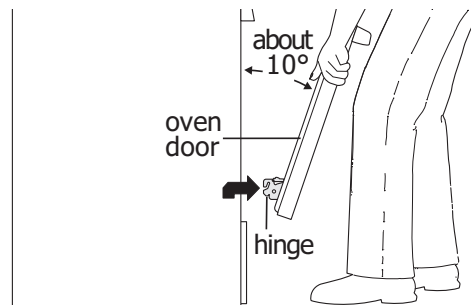
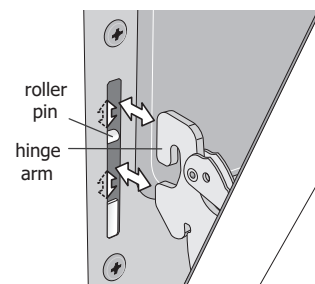

Figure 50: Holding door for removal
Figure 51: Replacement and location of hinge arm and roller pin
3. Firmly grasp both sides of oven door along the door sides. Do not use the oven door handle (See Figure 50).
4. Close the door to approximately 10 degrees from the door frame (See Figure 50).
5. Lift the oven door hinge arms over the roller pins located on each side of the oven frame (See Figure 51).
1. Firmly grasp both sides of oven door along the door sides. Do not use the oven door handle (See Figure 50).
2. Holding the oven door at the same angle as the removal position, seat the hook of the hinge arm over the roller pins located on each side of the oven door frame (See Figure 50 and Figure 51). The hook of the hinge arms must be fully seated onto the roller pins.